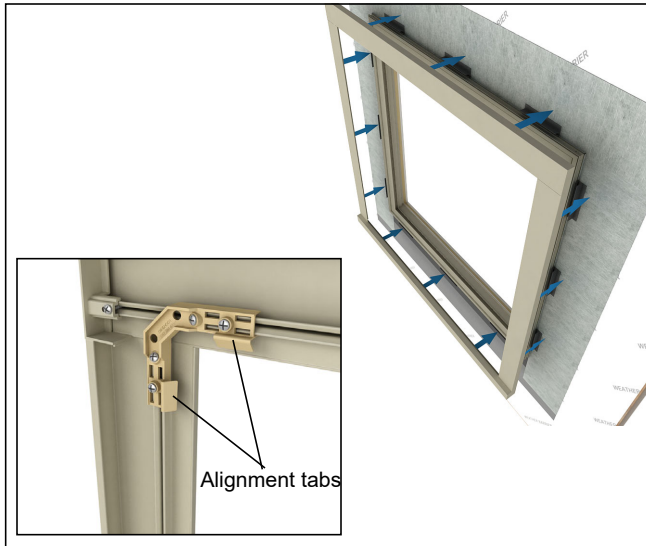

Figure 40
5. Press casing assembly onto connection bars by lining up all corners with the corner key alignment tabs. Press firmly (20-40 pounds of pressure) around the entire casing assembly until it is seated fully over frame. **Do not use excessive force, mallets, hammers, etc.** See figure 40.